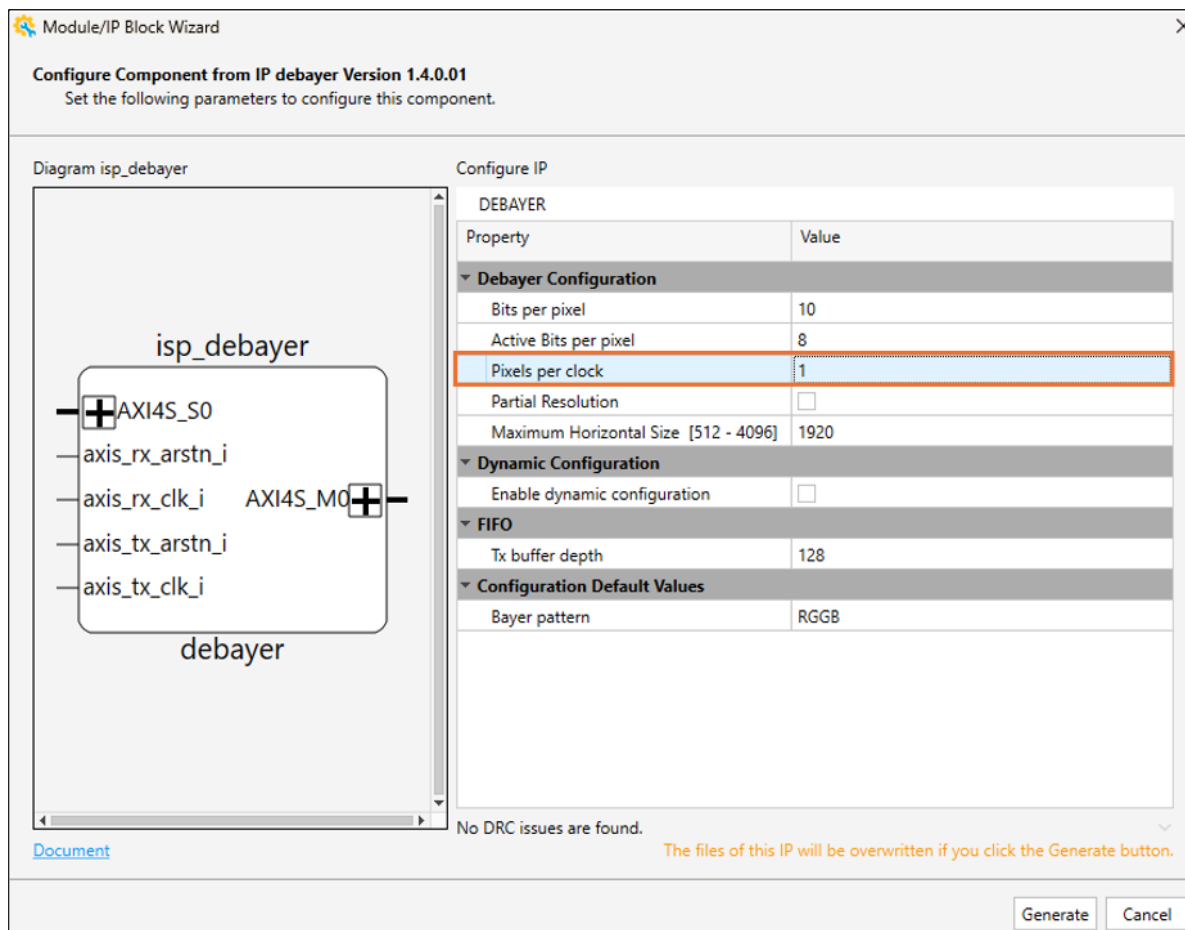

Figure 7.19. Debayer Configuration
2. Under the **DEBAYER** setting, set the **Pixels per clock** to 1 (Figure 7.19).